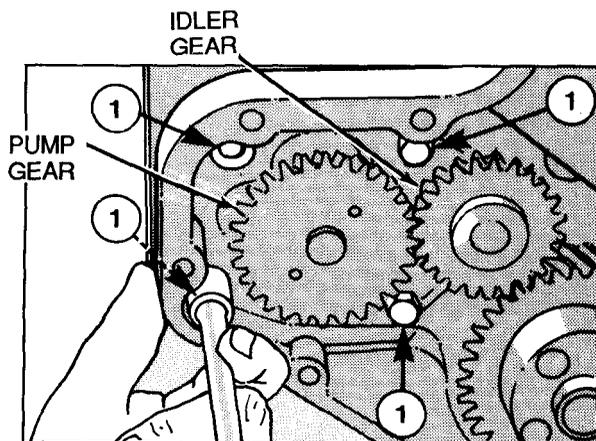

Figure 6-2
2. Install lube oil pump (2). Be sure idler gear pin fits into locating bore in cylinder block.
3. Using a 13 mm socket wrench, install four capscrews (1, Figure 6-2). Torque four capscrews (1) to 18 lb-ft (24 N•m).